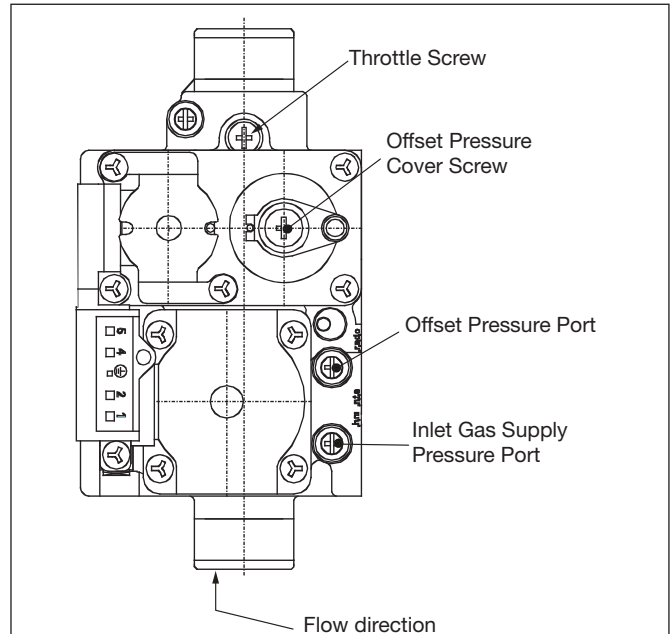

Fig. 3: Original Gas Valve
- Check the inlet gas supply pressure to the CHALLENGER at the gas valve see Figs. 3 & 4. Ensure a minimum pressure of 5" w.c [13 mbar] during flow conditions with all gas appliances firing including the CHALLENGER and a maximum pressure of 13" w.c [32 mbar] during non-flow conditions with all gas appliances off including the CHALLENGER.
- If the combustion levels during high fire are outside the recommended combustion settings adjust the THROTTLE SCREW (see Figs. 3 & 4 on page 5) using a T15 Torx wrench as follows:
- If the combustion levels during low fire are not within 0.0 to 0.4% CO₂ lower than the combustion level measured at high fire, remove the offset pressure cover screw and adjust the OFFSET SCREW using a T15 Torx wrench as follows (see Figs. 3 & 4 on page 5):